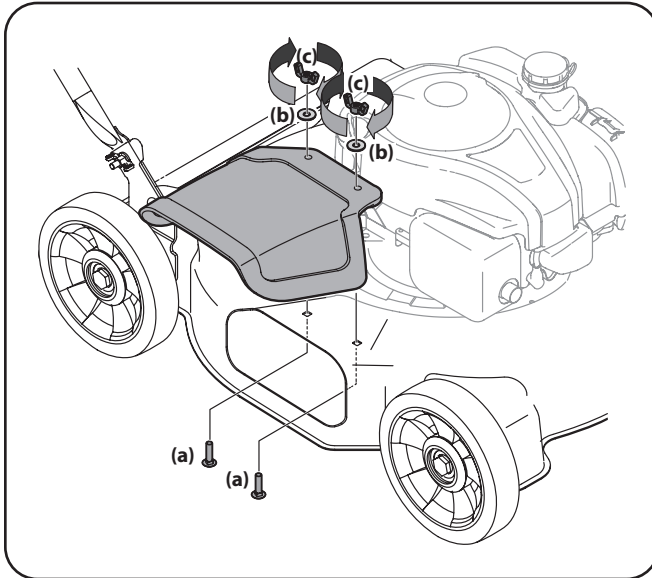

Figure 3-5
1. Align the holes on the chute deflector with the corresponding holes on the deck surface. See Figure 3-5.